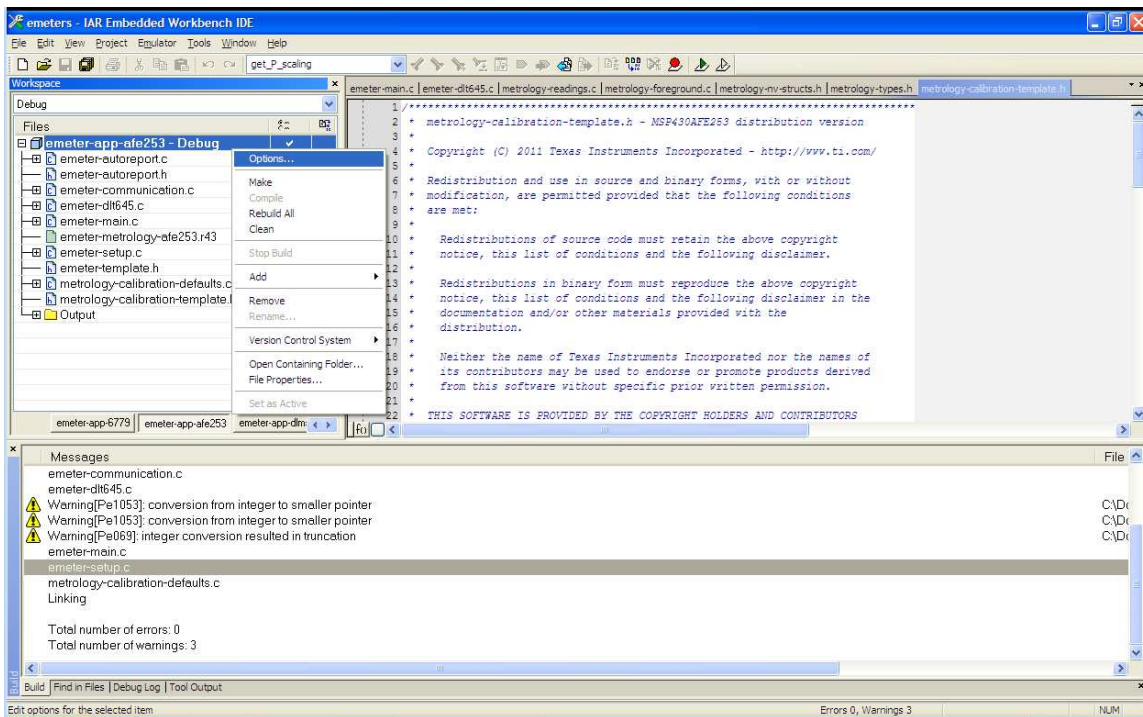

Figure 16. Project Options
2. Check the project options by right-clicking project name and selecting [Options...] from the pop-up menu (Figure 16)